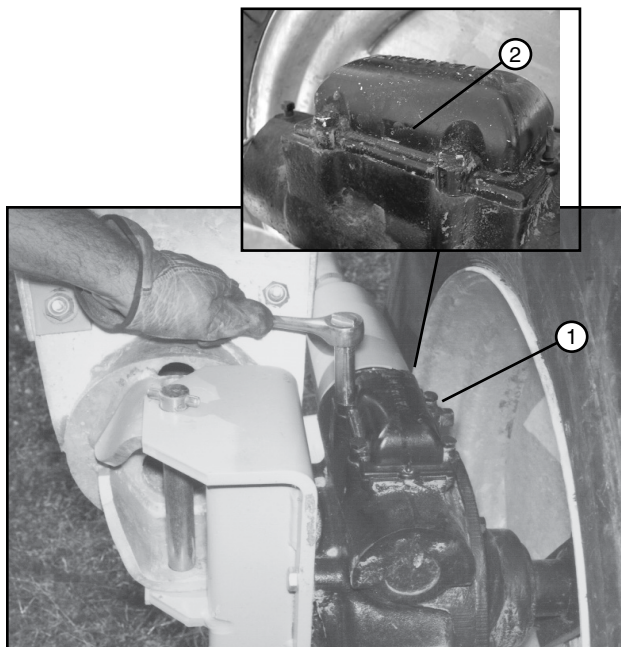

Figure 92-2 1. Expansion Chamber Cap
5. Clean all of the dirt away from the expansion chamber cap and remove the expansion chamber cap. Do not allow dirt to fall into the gearbox when removing the cap. See Figure 92-2.